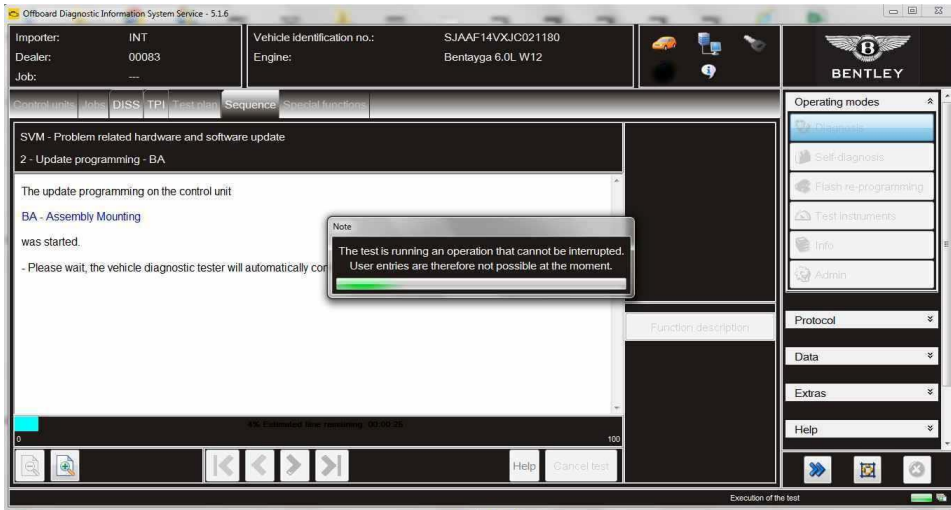

Figure 5
5. The software of 00BA Assembly Mounting will now be reprogrammed (Figure 5). *NOTE: Depending on the software part number of the control module your vehicle may skip straight to step 6, if so proceed as instructed.*